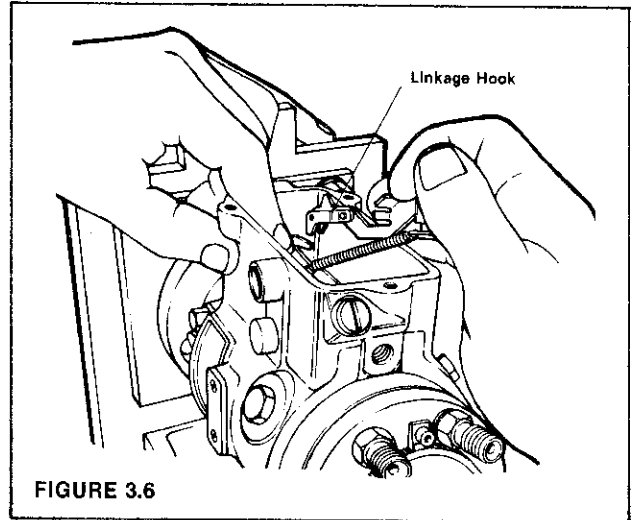

FIGURE 3.6
STEP 6 While depressing the metering valve assembly, raise the governor linkage hook assembly from the metering valve arm pin. While holding the governor arm forward, pull the linkage hook back slightly to disengage it from the governor arm (Figure 3.6). Place it over the side of the housing. Do not disengage the linkage spring.